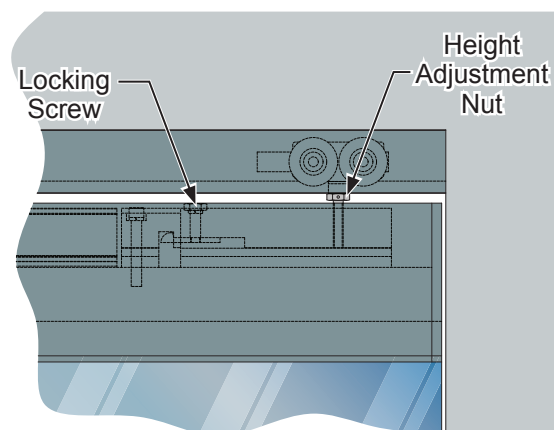

Fig. 17
4. If height adjustment is required, rotate the height adjustment nut until the desired height is achieved. **(Fig. 17)**